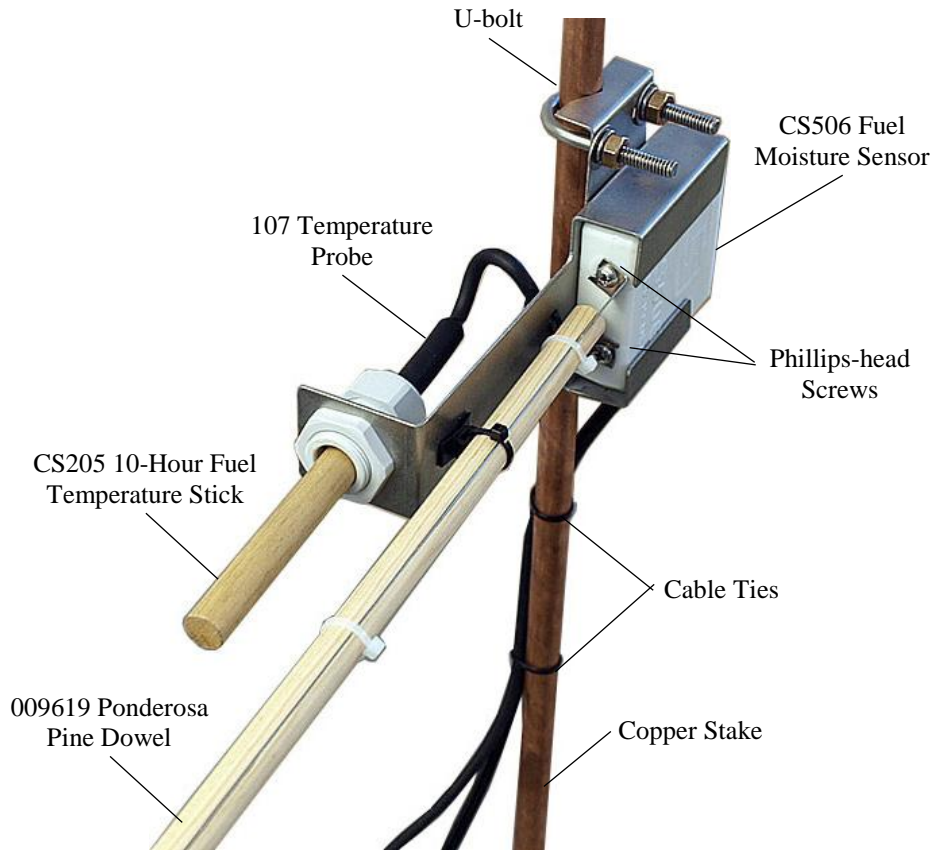
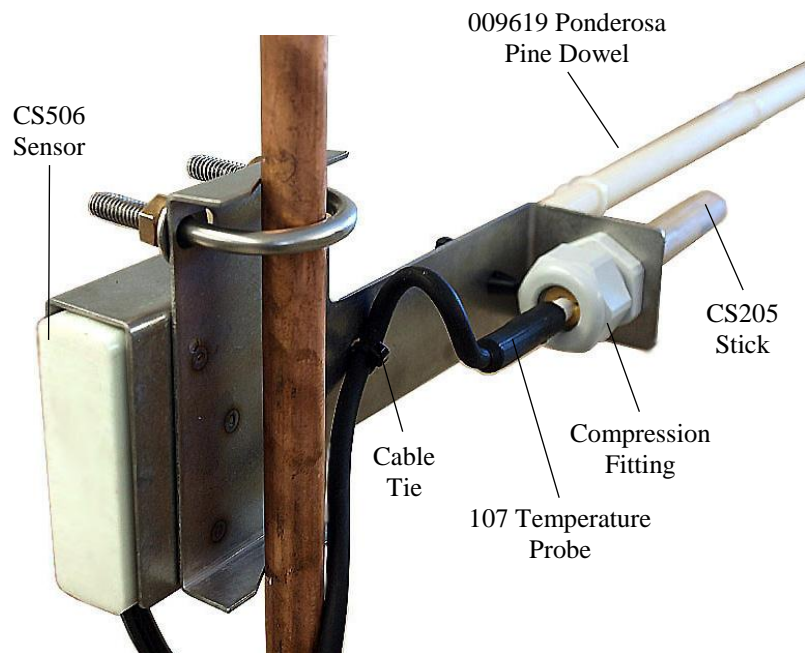

Figure 6-1. Front view of the 009620 fuel moisture/temperature mounting stake
Figure 6-2. Back view of the 009620 fuel moisture/temperature mounting stake
Figure 6-1 and Figure 6-2). The kit's bracket places the probes in a horizontal position.
10. Use the ultraviolet light resistant cable ties included in the 009620 mounting kit to secure the cables. One cable tie passes through the two slots in the bracket to loosely secure the cable of the CS205/107 (Figure 6-2). The other two cable ties secure both cables to the copper stake (Figure 6-1).
11. Figure 6-1).